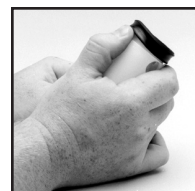

Figure 6.
6. To replace the Viton® collar, push it off the top of the piston with your thumb. Figure 6. Install the new collar on the piston onto the form fitted sides.